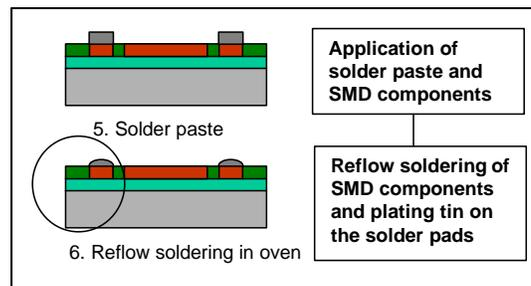

Figure 8
(see figure 8). The finished product is a MCPCB with solder wetted pads and mounted SMD components (resistors etc.) as required by system design.
- Solder pad preparation and SMD component mounting (see figures 8 and 8a)
## Steps 5 and 6: Solder pad preparation and SMD component mounting (see figures 8 and 8a)
Detail of Figure 8.